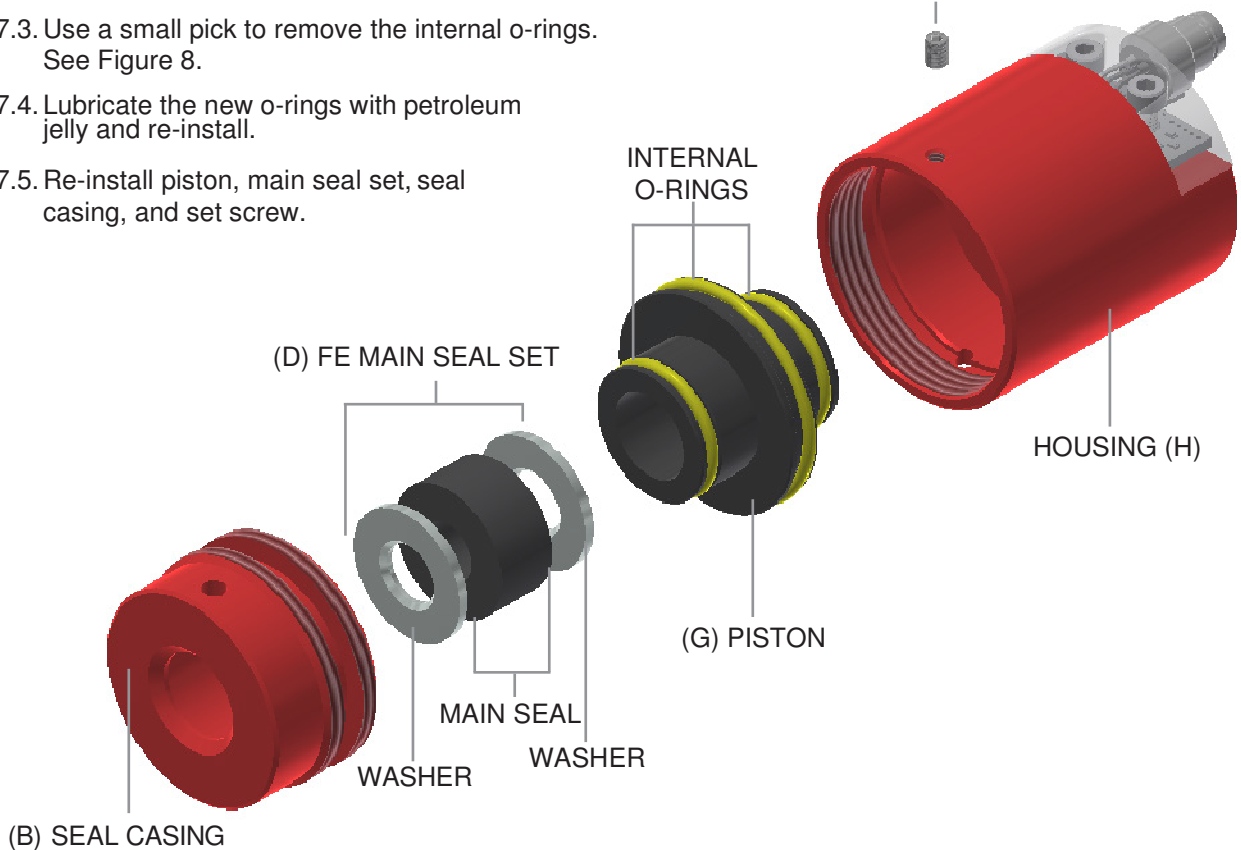

Figure 8. FE Exploded View
- 7.3. Use a small pick to remove the internal o-rings. See Figure 8.